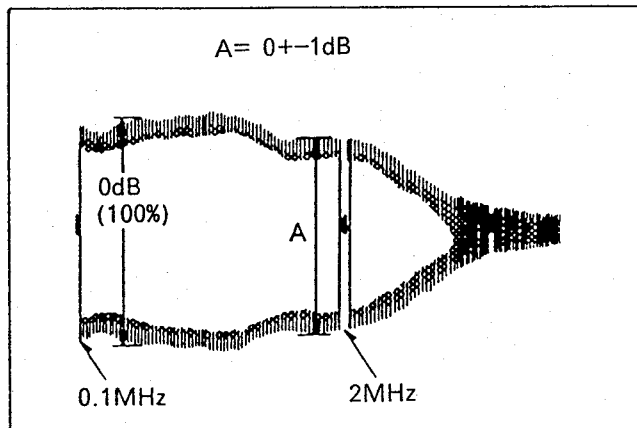

Fig. V14
- Adjust VR5002 so that level at 2MHz is within spec. as shown in Fig.V14.